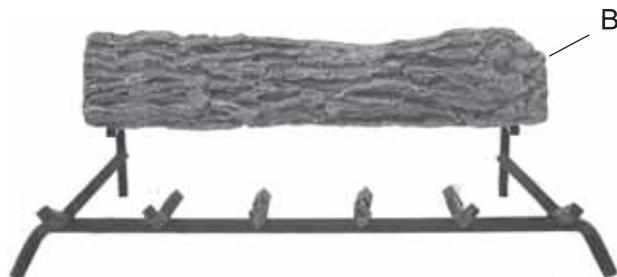

Figure 59 - Placing Back Log (#2) on Grate Bars on Back of Grate.
1. Place Back Log #2 on grate bars on back of grate. See Figure 59.